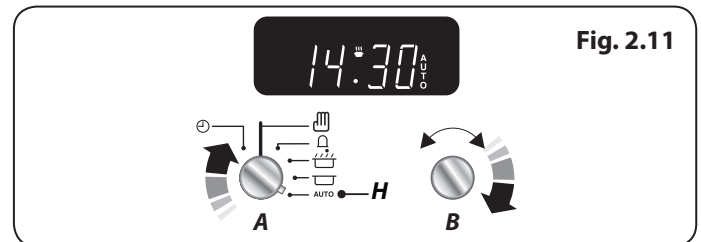

Fig. 2.11
3. Continue to turn the **Adjusting (B)** knob to the amount of time required e.g. 1 minute (**Fig. 2.11**).
5. Turn the **Timer (A)** knob to the **Auto (H)** setting (**Fig. 2.11**). If the display shows the current time and the word 'AUTO' the Multifunction Oven is set to turn on and off.